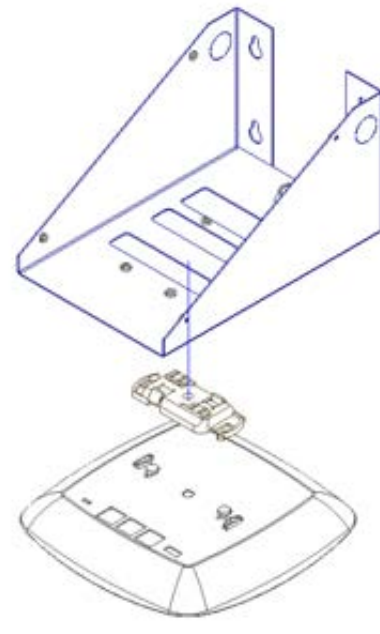

Figure 2
Step 2b (*Other Manufacturers*) – Use the integrated T-Bar bracket of the wall mount to securely fasten the access point and its respective mounting plate or bracket (Figure 2).